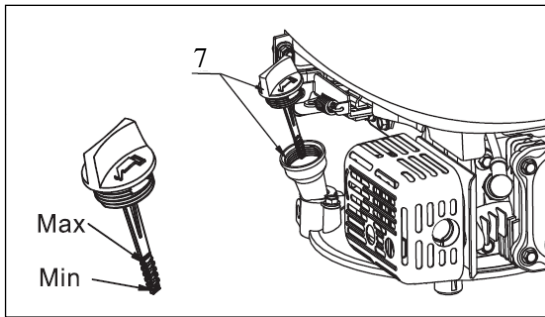

Fig. 7
2. Remove the oil filler cap/dipstick (7) and wipe it clean.
3. Insert the oil filler cap/dipstick (7) into the oil filler neck as shown, but do not screw it in, then remove it to check the oil level.
5. Reinstall the oil filler cap/dipstick (7). (See Fig. 7)